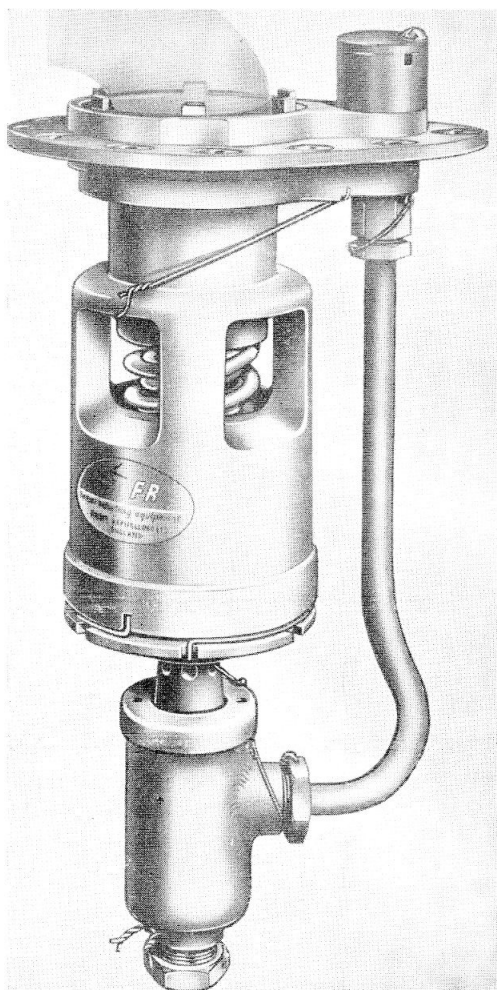

Fig. 1. Fuelling valve, Mk. 12, Series 3
4. The Series 3 valve (*fig. 1*) comprises three distinct assemblies; the body barrel containing the piston assembly, the solenoid assembly, and the adapter assembly.